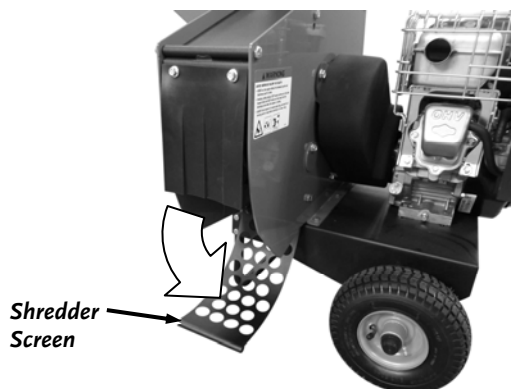

Figure 11
3. Rotate the Screen down to gain access to the cutting chamber (**Figure 11**).